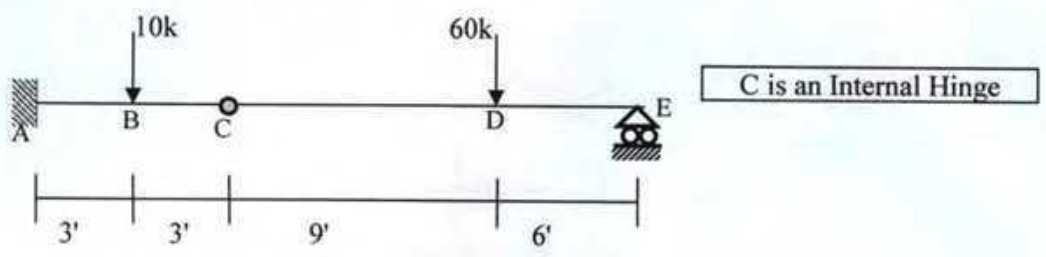

Fig.7
8. For the beam shown in Fig.7, use the Moment-Area Theorems to calculate the deflection at C and rotations at the left and right of C [$EI=40000 \text{ k-ft}^2$].